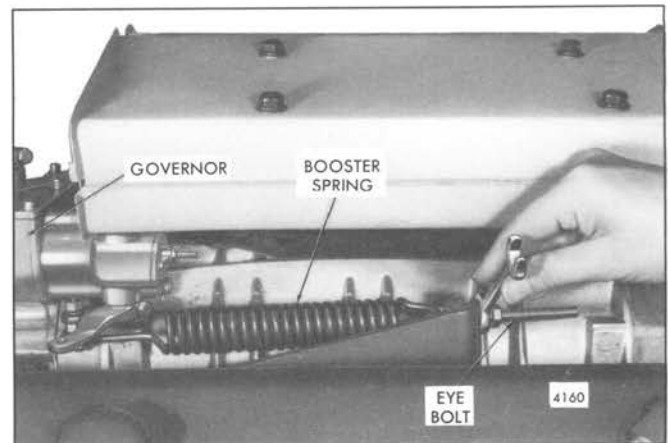

Fig. 9 - Adjusting Booster Spring
2. Refer to Fig. 9 and loosen the nut on the booster spring retaining bolt on the governor speed control lever. Loosen the locknuts on the eyebolt at the opposite end of the spring.